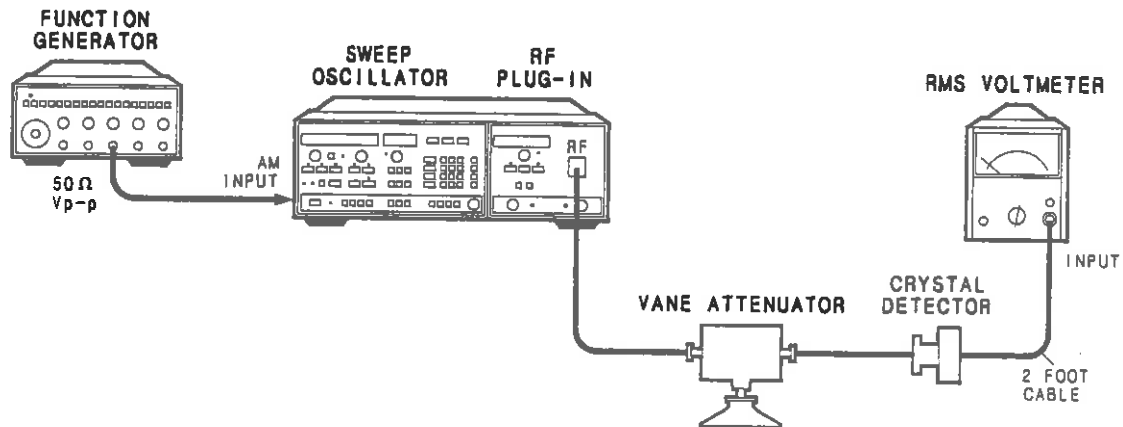

Figure 4-6. Residual AM Test Setup
1. Connect the equipment as shown in figure 4-6. Set the vane attenuator to 20 dB.